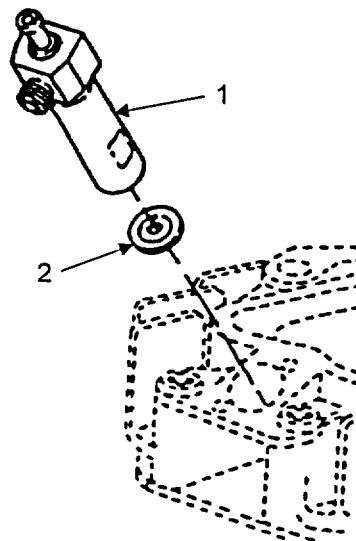

Figure 4-4. Fuel Injector
- a. Remove the injector (Figure 4-4, Item 1) from the cylinder head.
- b. Remove seal washer (2) and discard.
- a. Visually inspect injector (1) for scoring or burning. inspect to see if injector is bent, cracked, or damaged.
a. Be certain injector seat in cylinder is clean. Lightly coat a new seal washer (Figure 4-4, Item 2) with grease and install on nozzle end of injector (1). Make sure outside bevel edge of new joint washer points toward cylinder head.
b. Carefully install injector (1) into injector bore in cylinder head. Make sure not to damage nozzle needle. Tighten injector to 7 lb.-ft (10 Nm) using a torque wrench.